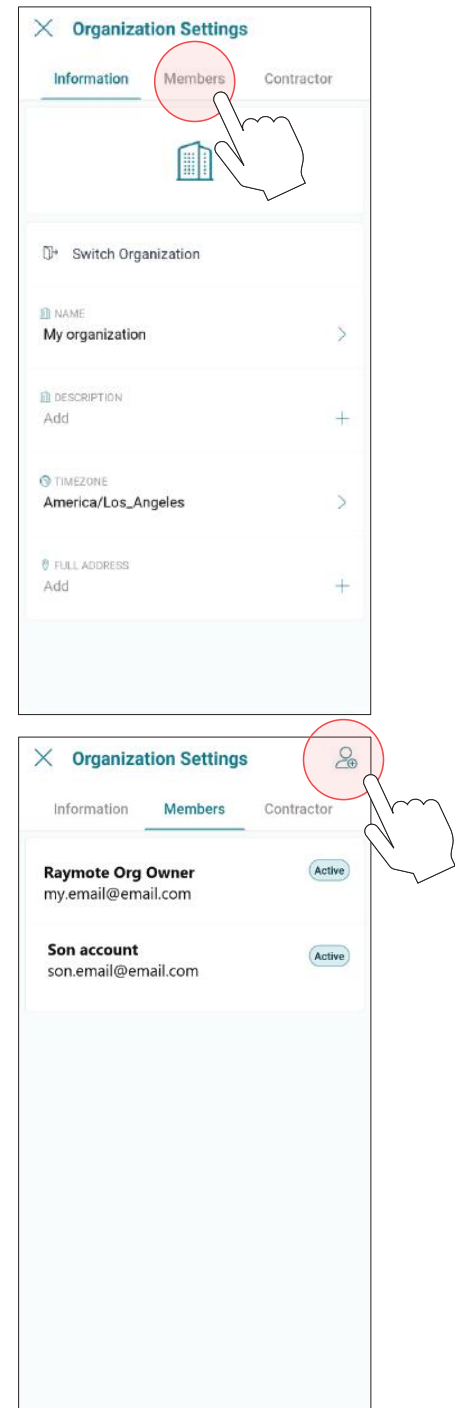

Figure 109. Invite a New Member to your Organization
4. Click on the top-right icon to [Invite a New Member]. See Figure 109 and Figure 110.